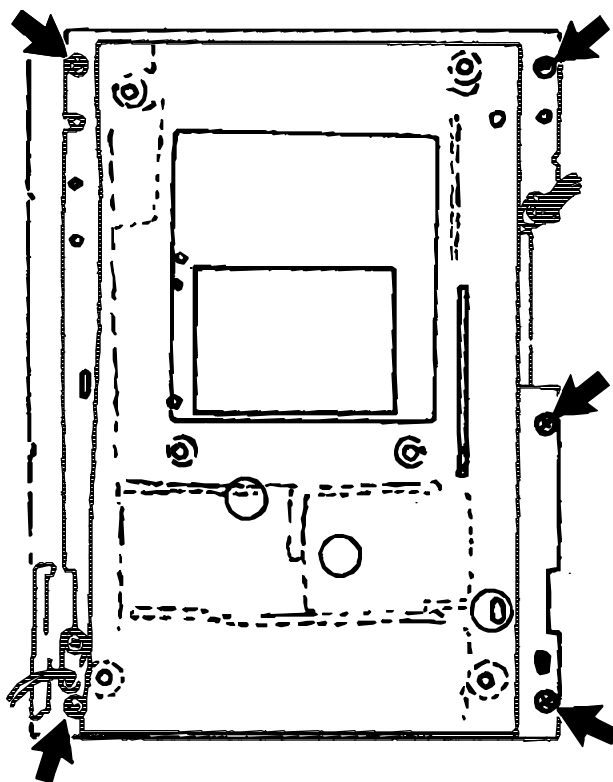

Figure 4-18 Removing Back Plate Screws
- 5.1 Remove the five screws. (Fig. 4-18)